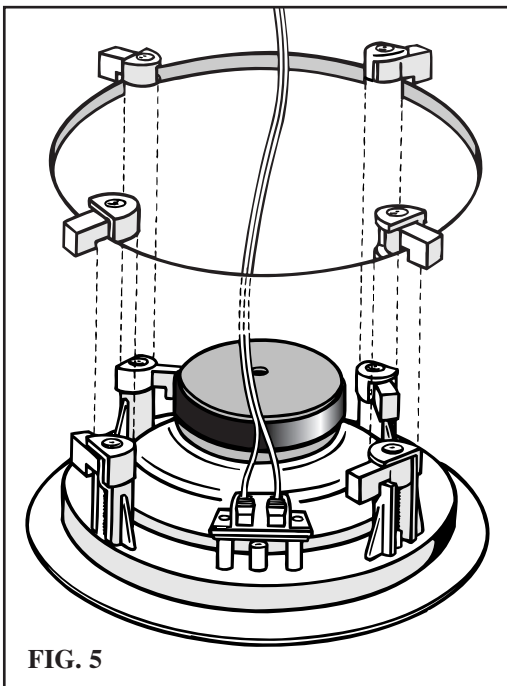

FIG. 5
6. See Fig. 5. With the speaker wire attached to the speaker, slide the speaker up inside the cut-out hole. Center the speaker in the cut-out hole and turn the four locking screws clockwise until the speaker is drawn up snugly to the wall board from behind, clamping the speaker in place. Try to tighten each screw equally. Replace the speaker grille by placing it on the frame until the magnets capture it.